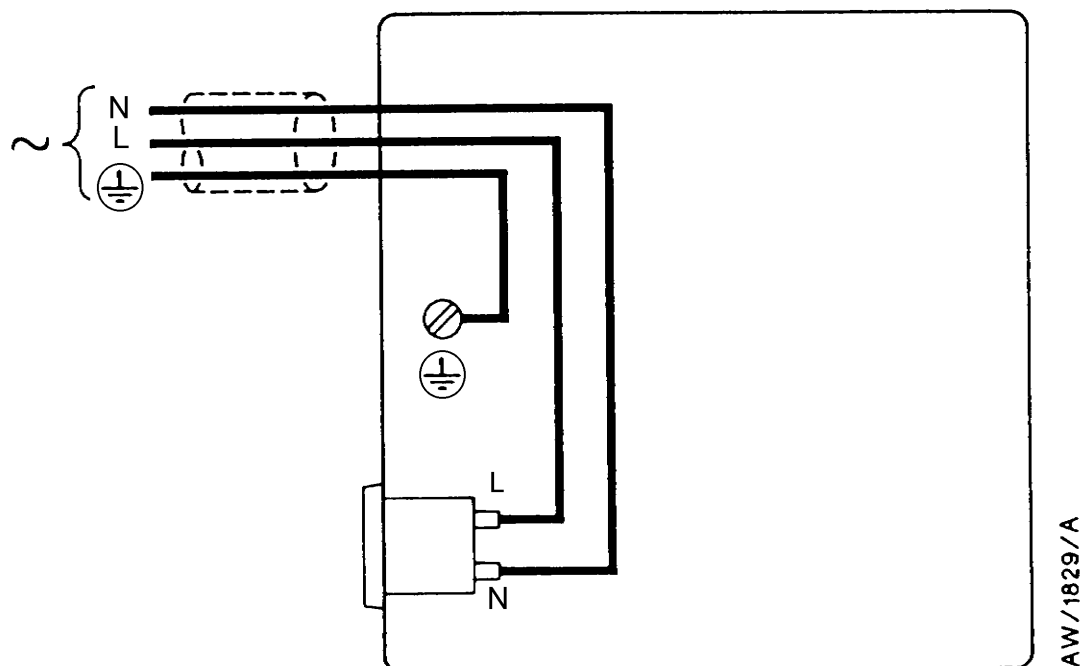

Figure 3 - Electrical supply connection, single-phase motors:
8. Connect the electrical supply cable to the appropriate terminals as shown in Figures 3 to 5.